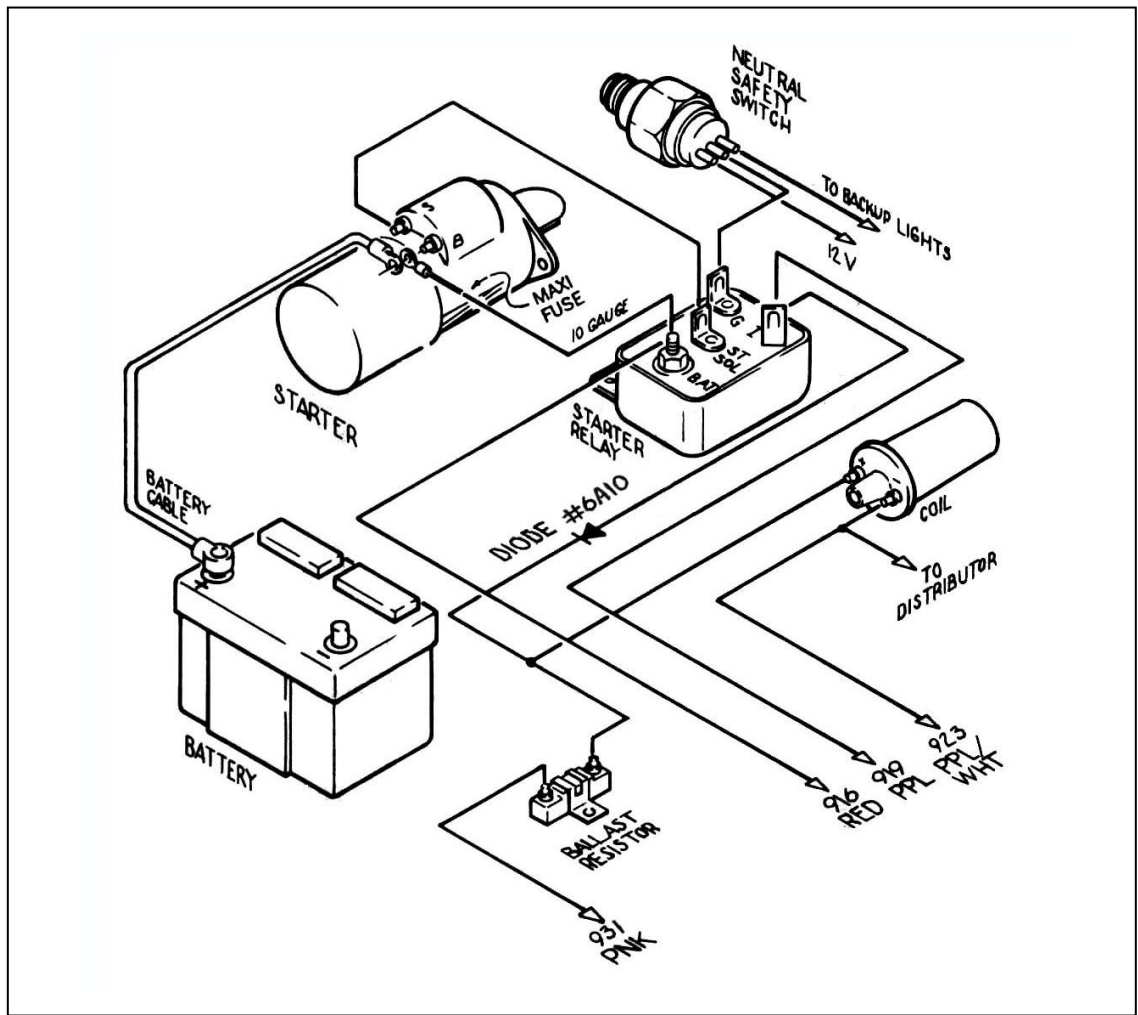

Figure 9-2 Mopar Ignition (Start/Run) System
9.2 Mopar Ignition (Start/Run) System. See Figure 9-2
- 9.2.2** With crimping tool, attach the Maxi Fuse (**Figure 7-3**) onto remaining length of red 10-gauge wire. It serves as a fuse to protect the entire harness. **DO NOT OMIT IT!** Connect this wire from the Starter Motor Battery terminal, as shown in **Figure 9-2**. **USE ONLY 10-GAUGE WIRE.**
- 9.2.4** Connect a 14-gauge wire from the Starter Relay Ground (G) terminal to the center terminal of the transmission mounted Neutral Safety Switch. Older Mopar neutral safety switches have only one terminal. On newer switches, the two outside terminals are for backup lights. Use existing wiring to connect these two terminals as shown in **Figure 9-2**.
- 9.2.7** Connect a 14-gauge wire from the Starter Relay Ignition (I) terminal to the ignition coil side of the Ballast Resistor. This wire serves as a ballast resistor BYPASS during engine starting. You must add a diode (8 amp min., 100 PIV) to this wire as shown in **Figure 9-2**. If you are not using a ballast resistor, do not connect this wire.